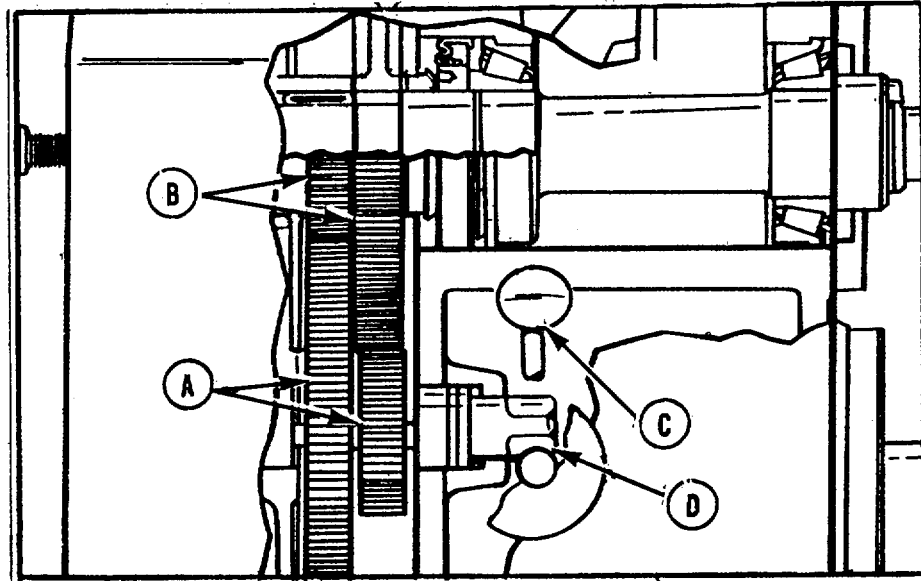

Fig. 16.
Proper backlash is accomplished when the back gears (A) Fig. 16, and the spindle gears (E) are engaged and the back gear eccentric shaft (D) is near the high point of its eccentric e.g., when the back gear engagement shaft (C) is pulled out against the stop, the back gears and the spindle gears should be properly engaged.